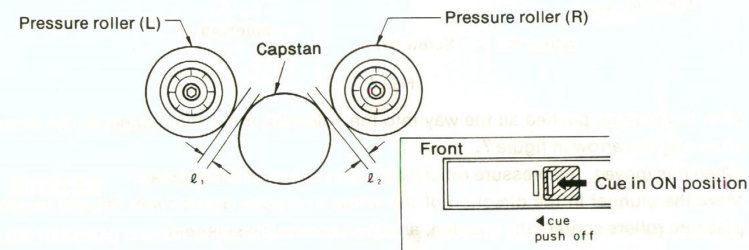

Fig. 4
(4) Dual trace oscilloscope
(5) Digital electronic counter
- Number of figure: 4 (decimal system)
(6) Wow meter
Checking method (See fig. 4)